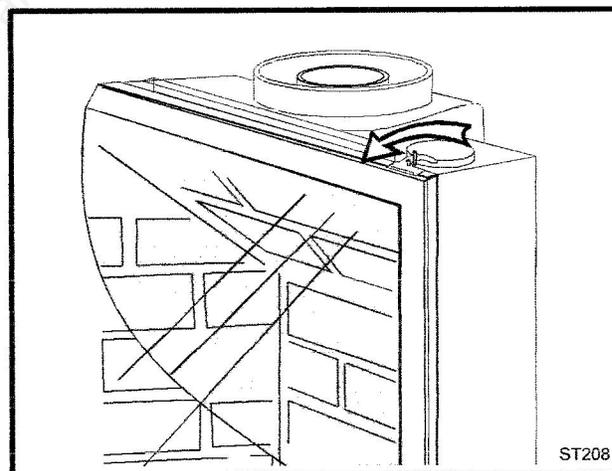

Fig. 14 Swivel the latches to release the glass frame.
- Swing open the swiveling latches at the top left and right corners of the glass frame. (Fig. 14)